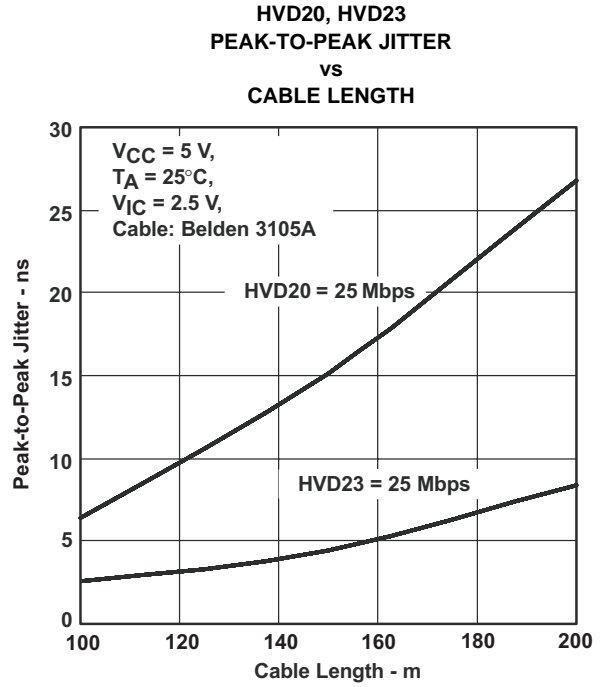
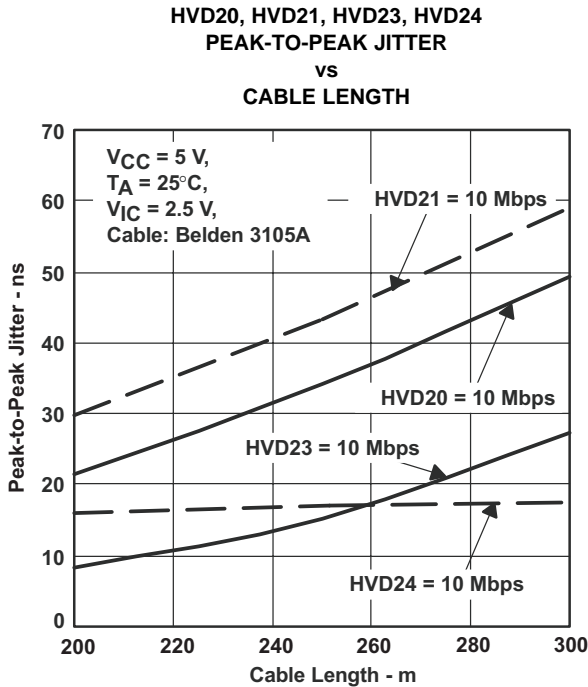
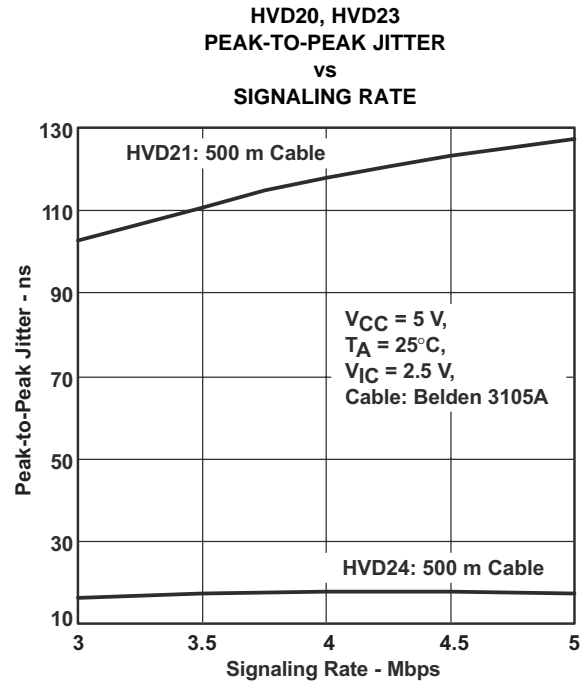

Figure 22.
Figure 23.
Figure 24.
- Added Figure 22, Figure 23, and Figure 24 to the TYPICAL CHARACTERISTICS **15**